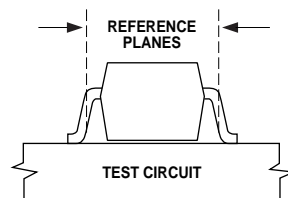

Figure 11. Phase Reference Planes.
1. Reference plane per Figure 11 in Applications Information section.
The positions of the reference planes used to specify the S-Parameters and Noise Parameters for this device are shown in Figure 11. As seen in the illustration, the reference planes are located at the point where the package leads contact the test circuit.